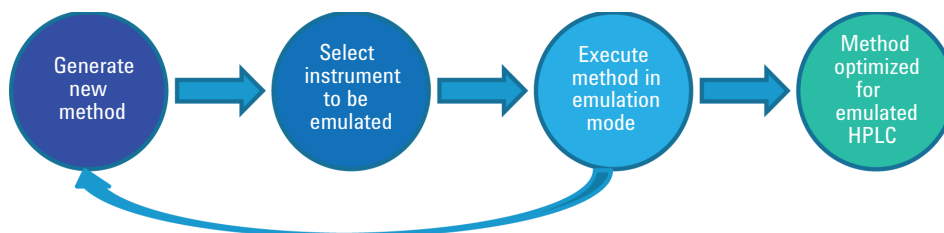

Figure 2 Method development
- Method development, see Figure 2 on page 7